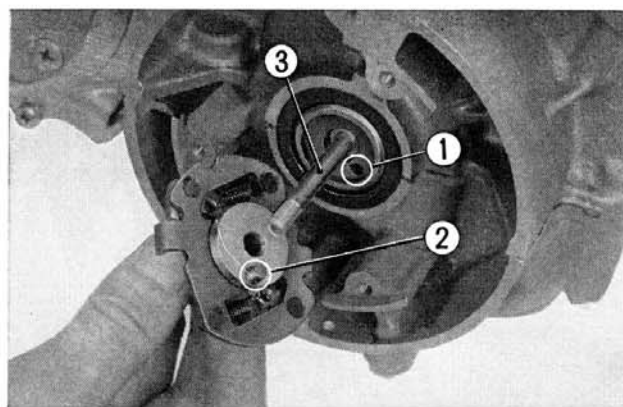

Fig. 3-87 ① Pin hole ③ Spark advancer shaft
**Note:** Pin on the back side of the advancer must fit into the crankshaft pin hole. (Fig. 3-87)